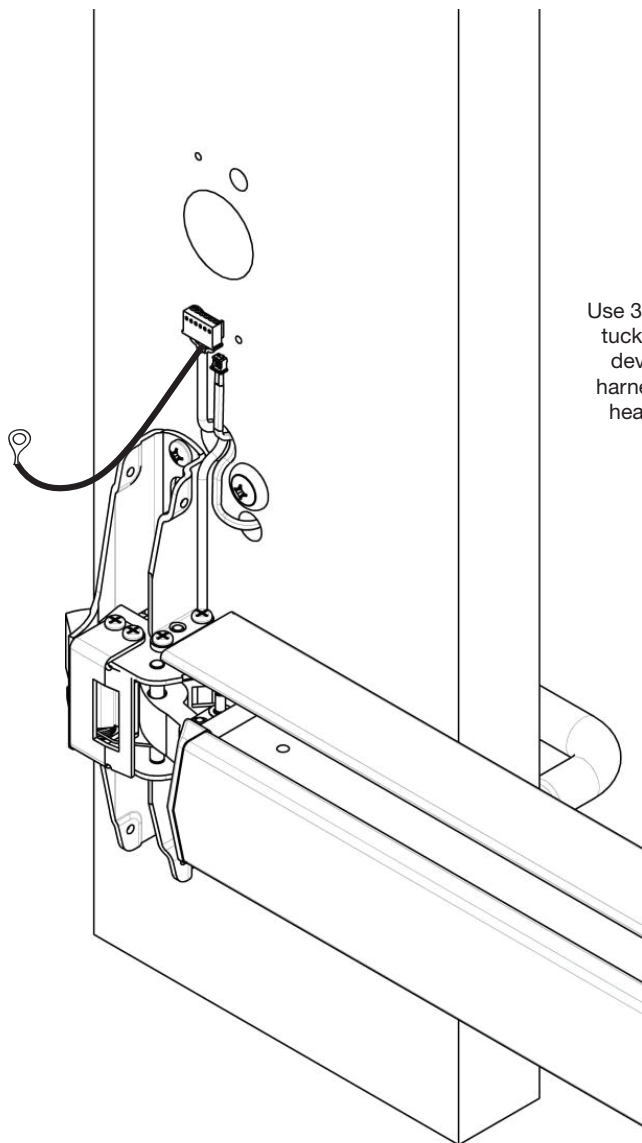

Fig. 5a
- a. Lay wire harnesses (trim harness and device harness) across  $\frac{3}{4}$ " hole (Fig. 5a).